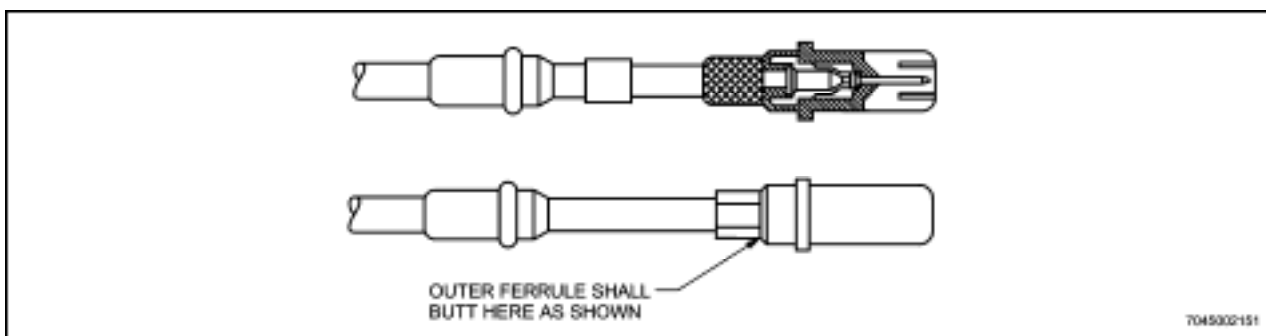

Figure 12-45 Final Assembly and Outer Ferrule Crimping
- Install the centre contact in the body assembly while sliding the inner ferrule underneath the wire braid. (See Figure 12-45.) The centre contact shall be inserted until it is locked into place in the body assembly. A 1.5 kilogram min to 2.3 kilogram max pull shall be exerted on the cable to assure that the contact is securely locked in place.